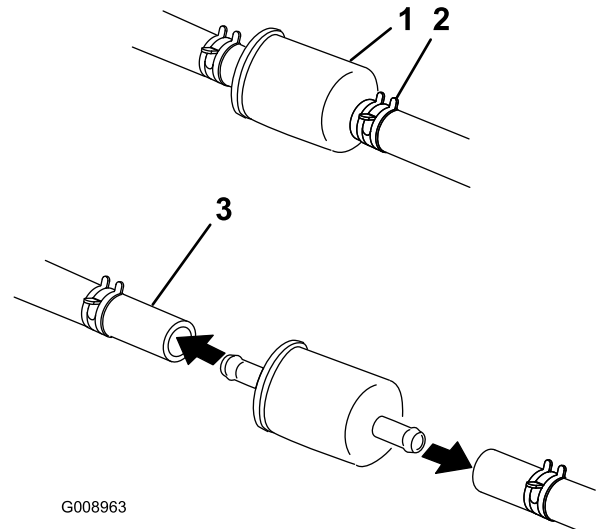

Figure 50
5. Close the fuel shutoff valve behind the seat (Figure 50).
6. Squeeze the ends of the hose clamps together and slide them away from the filter (Figure 50).
8. Install a new filter and move the hose clamps close to the filter (Figure 50).